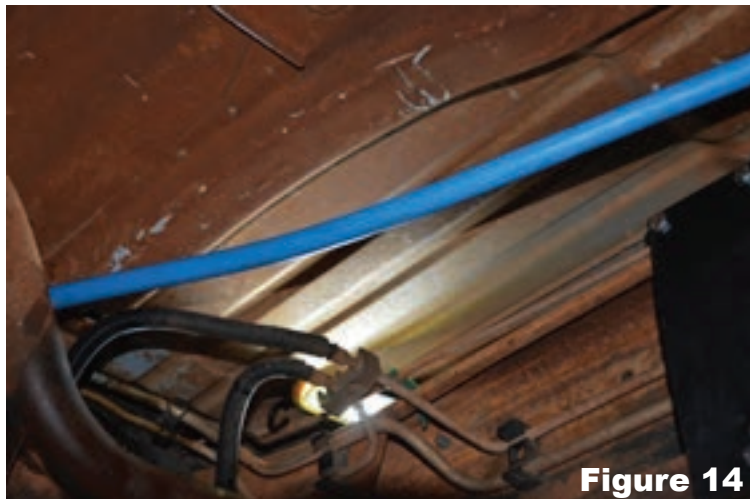

Figure 14
- 4-3. Run the fuel line along the frame away from any hot or moving parts such as exhaust or the driveshaft (Figure 14). Cut the hose to length and insert the other fuel line end that the manual calls out into the fuel line as outlined in step 4-1.